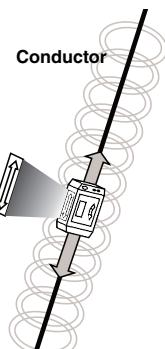

Figure 15 – Orientation to the Line – Inductive Mode
1. Properly place the transmitter relative to the target conductor (see *Figure 15*). On the top of the transmitter is an arrow. Set